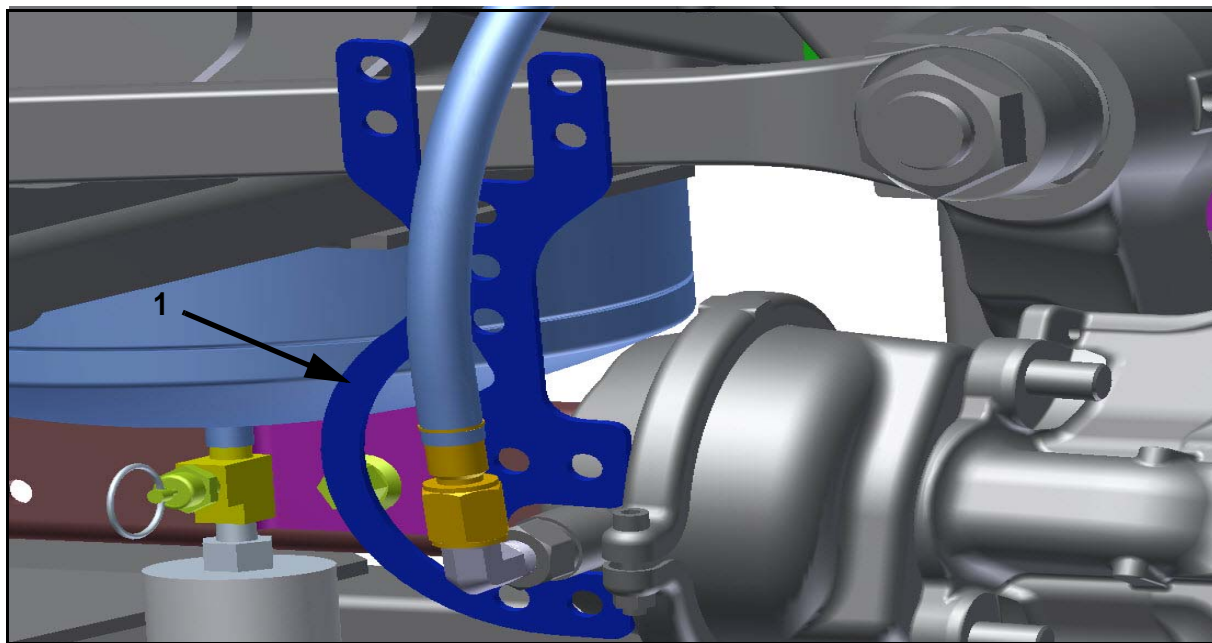

Figure 15.
39. Orient and connect the new front brake hose assembly to the 90 degree fitting on the front brake chamber as shown in Figure 15.
41. Orient the front brake line gauge, p/n 20-04-0028, against the front brake chamber clamp as shown in Figure 15. Center the hose routing with the upper opening of the brake line alignment tool and tighten the swivel nut to secure in position, ensuring that there is no twist or flex at any point throughout the routing.
Item	Figure 15 Description